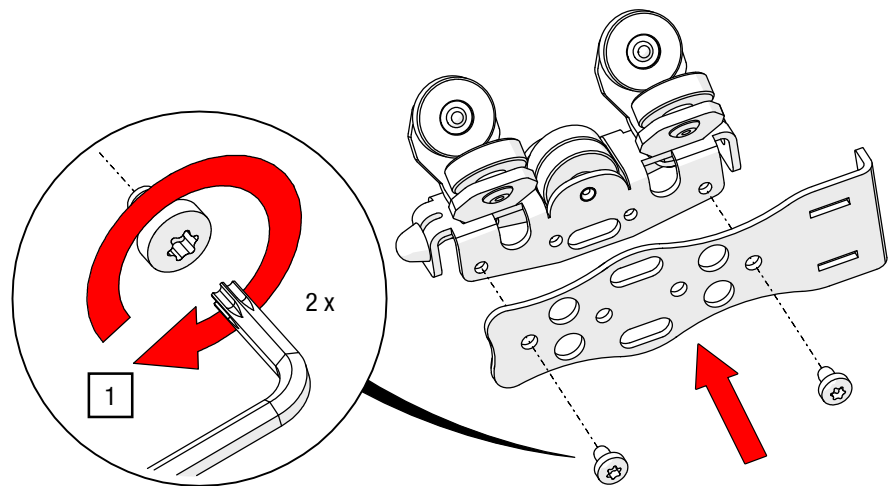

Fig. 53: Conversion of master runner with overlap arm – Mount side plate
1. Position the side plate on the master runner and screw it tight using a TORX®-key T20 until it is flush with the master runner (see Fig. 53).